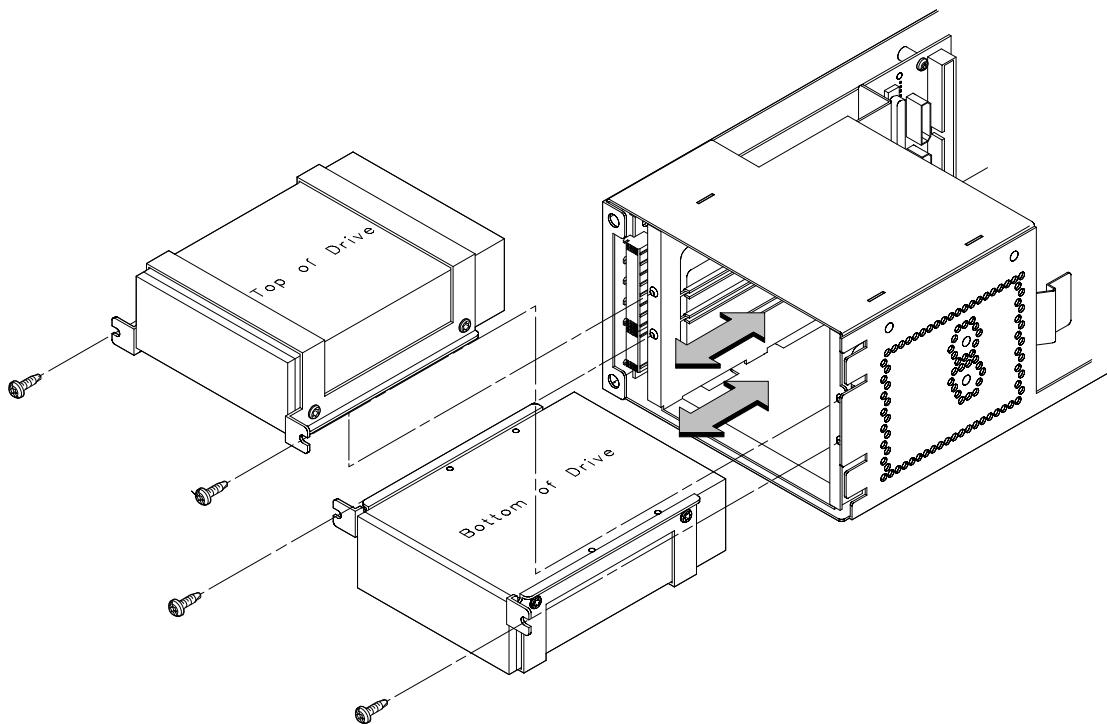

Figure A-18. Placing Hard Drives in Storage Drawer
- 6.** With the disk mounting bracket between the guides on each side of the Storage Assembly, slide the disk into the Storage Assembly, securing it to the drawer with two side screws. See Figure A-18. Do not over-tighten the side screws.
The drives should be placed in the drive bays with the bottom of each drive toward the middle, as shown in Figure A-18. Refer to Figure B-16 for drive orientation in the bracket.